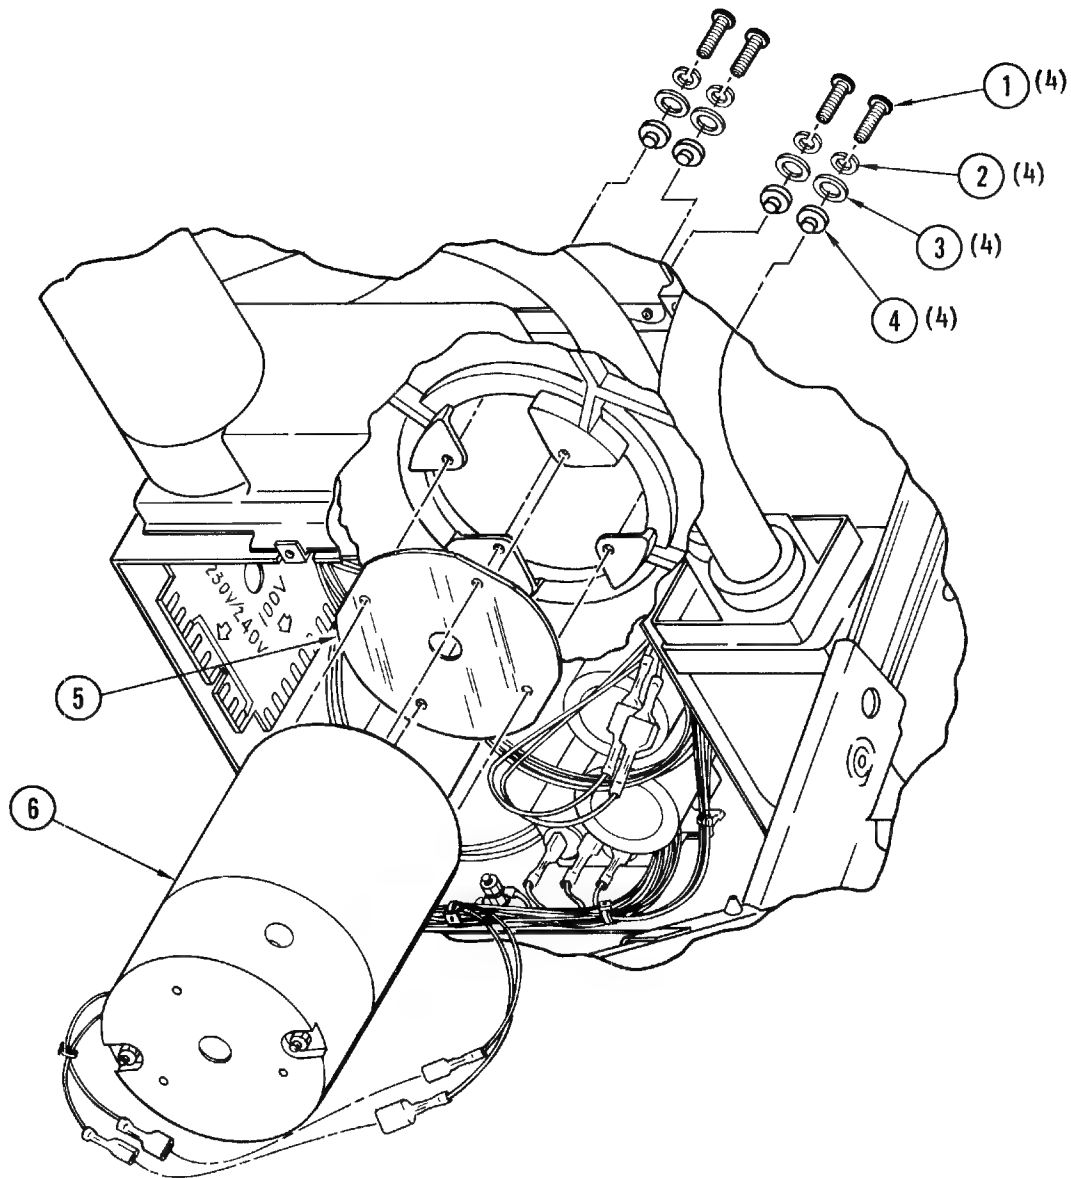

Figure 4-26. Takeup Motor Assembly
**4-40. Removal, Replacement and Adjustment (Figure 4-26).** Place the transport in service access position, in accordance with paragraph 4-3, and remove and replace the takeup motor assembly in accordance with the following procedure:
- f. Remove four screws (1, Figure 4-26), lockwashers (2), flatwashers (3), shoulder washers (4), and takeup motor (6) out of drive, noting orientation of motor. Save attaching parts, including insulator (5), for use in assembly.